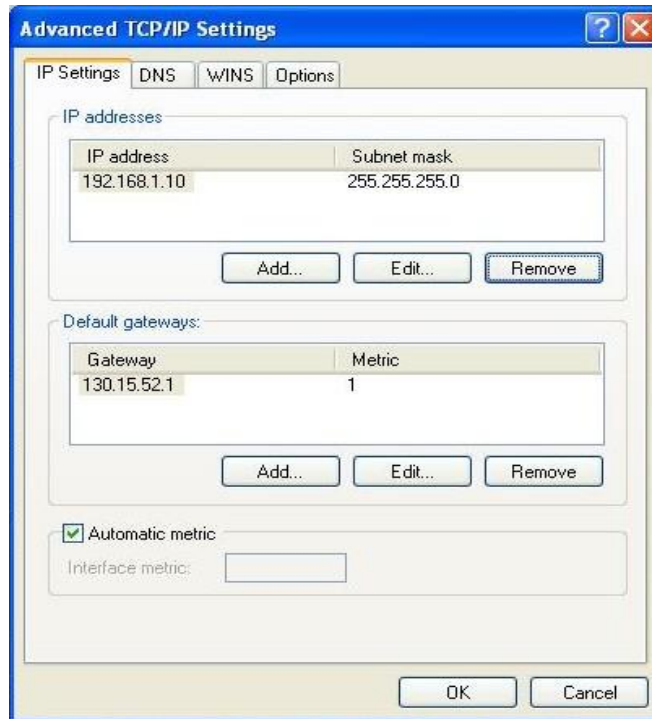

Figure 21: Setting up IP Address
11. Add the IP address 192.168.1.10 and the netmask 255.255.255.0 to the IP Addresses (refer to Figure 21).